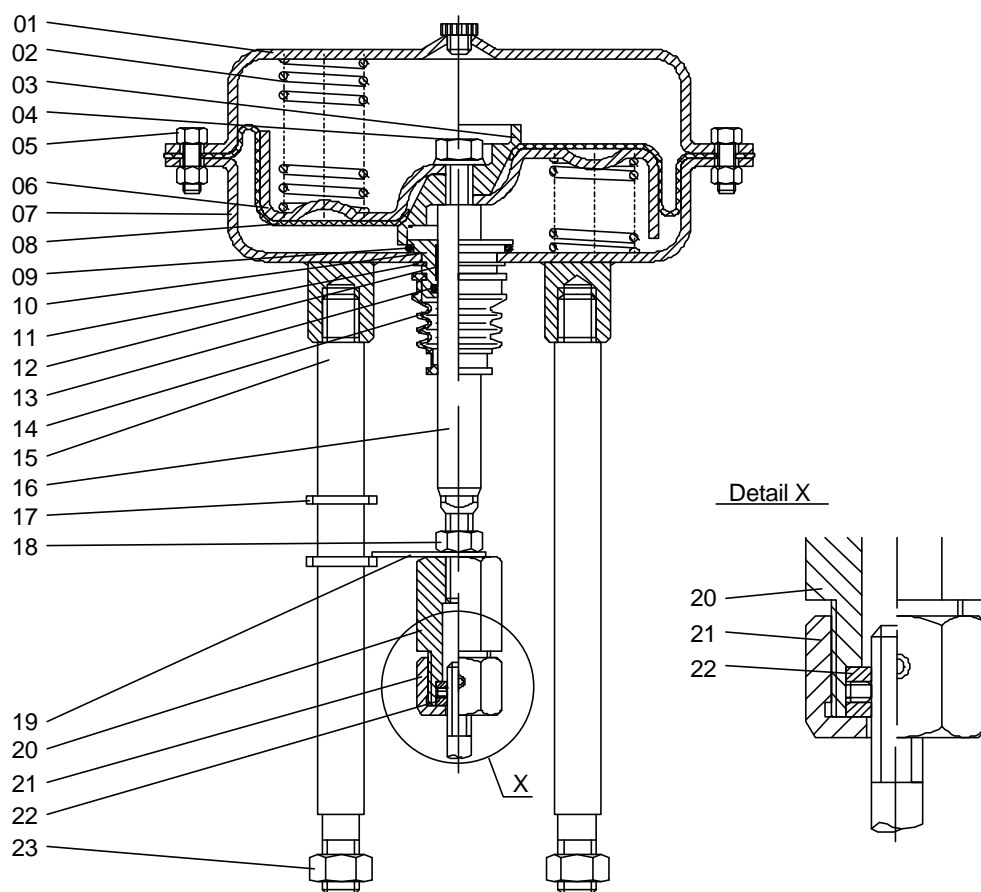

Fig. 1
Release lock nut (18) (see fig. 1) on the actuator spindle (16) and screw slightly in the direction of the actuator. Temporarily remove the indicating plate (19) located beneath.